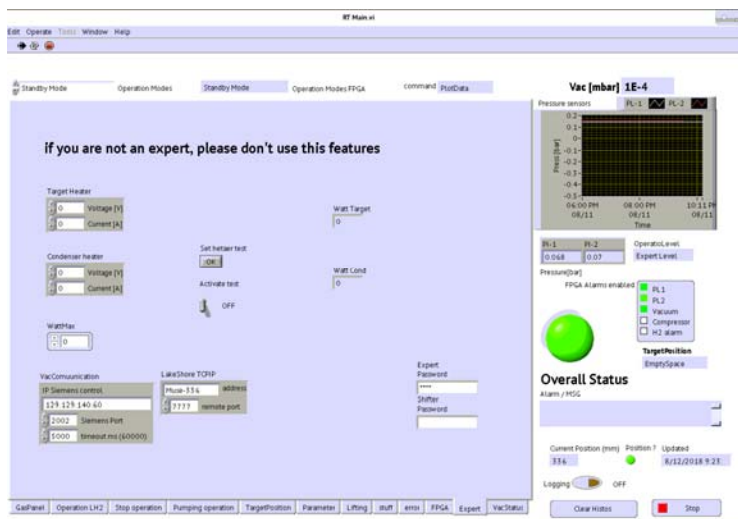

Figure 3: A picture of the 'Expert' tab of RTMain.vi.
10. Check RTMain.vi is running on slow control's display panel. If not running, click on arrow displayed on top-left to start the vi. Go to 'Expert' tab of RTMain.vi (Fig. 3). Use expert password to login.
4. Check RTMain.vi is running on slow control's display panel. Go to 'Expert' tab of RTMain.vi (Fig. 3). Use expert password to login.